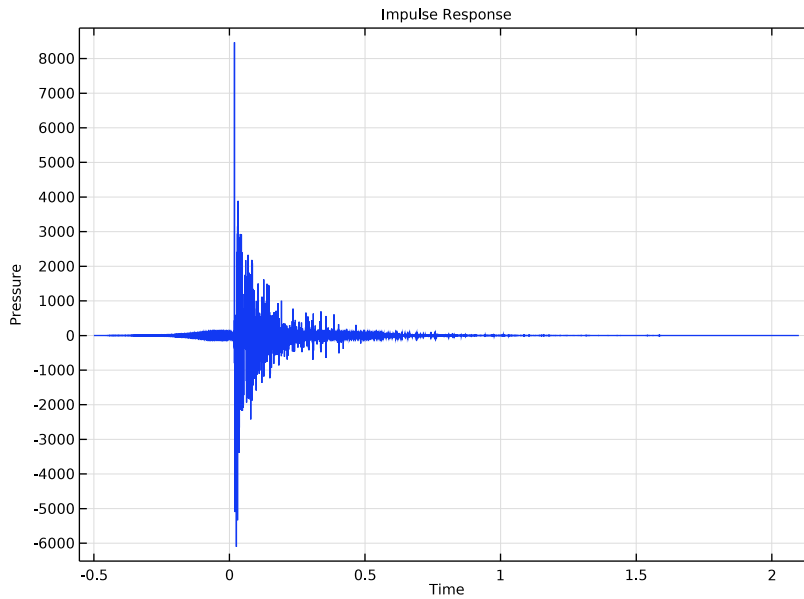
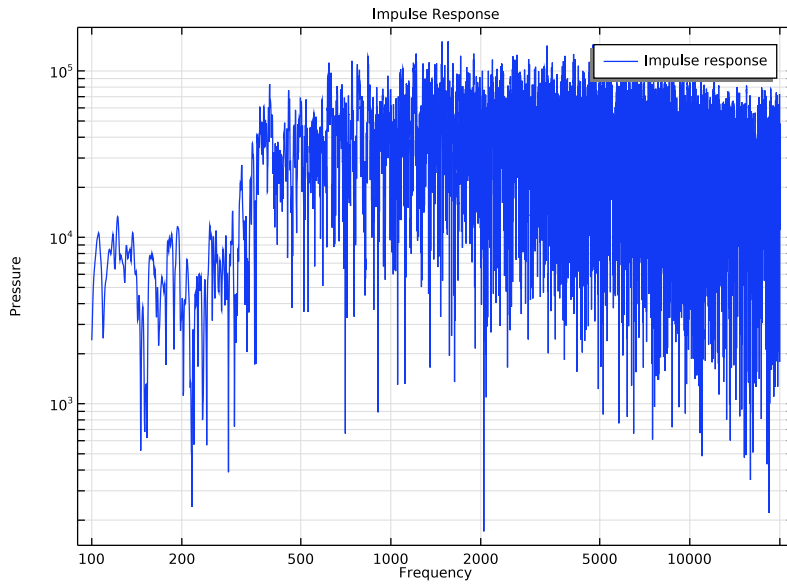

Figure 4: Temporal impulse response computed at the receiver location.
Figure 5: FFT of the impulse response (no smoothing/windowing is used).
The temporal impulse response (IR) for the default source location configuration used in the model is depicted in Figure 4. The frequency domain (FFT) of the IR is depicted in Figure 5. No smoothing nor windowing is used in the plot. The IR is further analyzed using the **Energy Decay** subfeature to the **Impulse Response** plot. The feature allows the computation of the objective room acoustic metrics like clarity C , definition D , early decay time EDT, center time t_s , reverberation times T_{20} , T_{30} , T_{60} , and the STI. The level decay